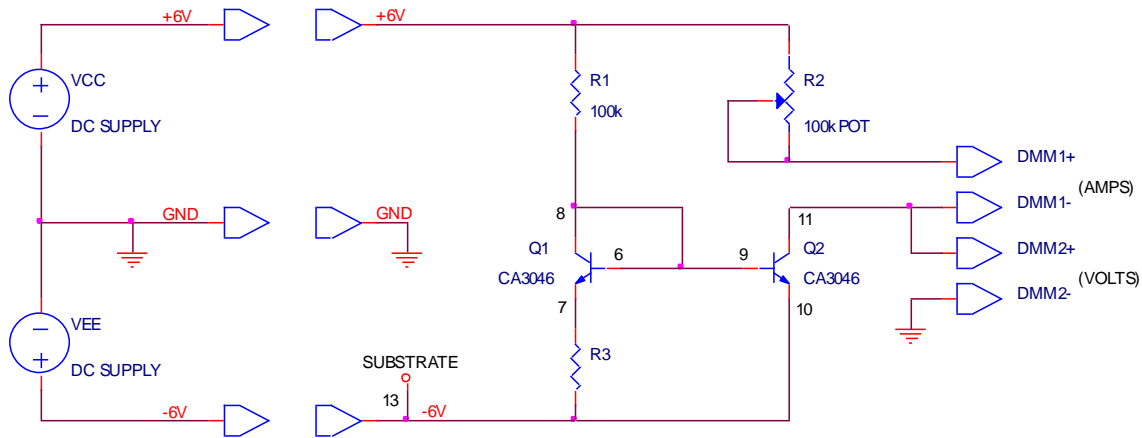

Figure E3.2b
Turn the dual DC power supply OFF, and replace R3 on the emitter of Q2 with a wire. Add a new resistor R3 in series with the emitter of Q1, as shown in Fig. E3.2b.
When R3 is under the emitter of Q1 as shown in Fig. E3.2b, the voltage drop across R3 makes  $V_{BE2} > V_{BE1}$ , for which  $I_{C2} > I_{C1}$ . This is a boosting Widlar current source. The value of R3 to obtain a specific current from the Widlar current source is given by  $R3 = [V_T \ln (I_{C2}/I_{C1})]/I_{C1}$ . Calculate the value of R3 for this Widlar current source to produce  $I_{C2} = 1$  mA. You should obtain a value in the range of 400-500  $\Omega$ . Locate a standard resistor close to your calculated value and insert it into the breadboard.
- (b) Calculate the output resistance of the boosting Widlar current source of Fig. E3.2b.